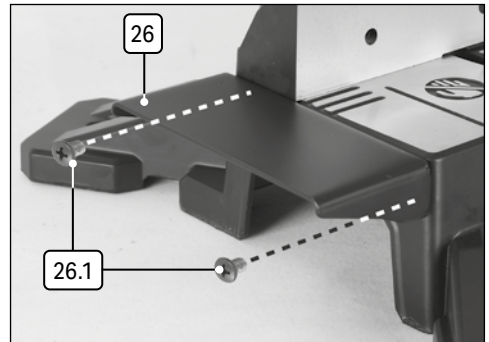

Fig. 3
6.4 Fitting the Extension Plates (Stock No.83677) – Fig.3